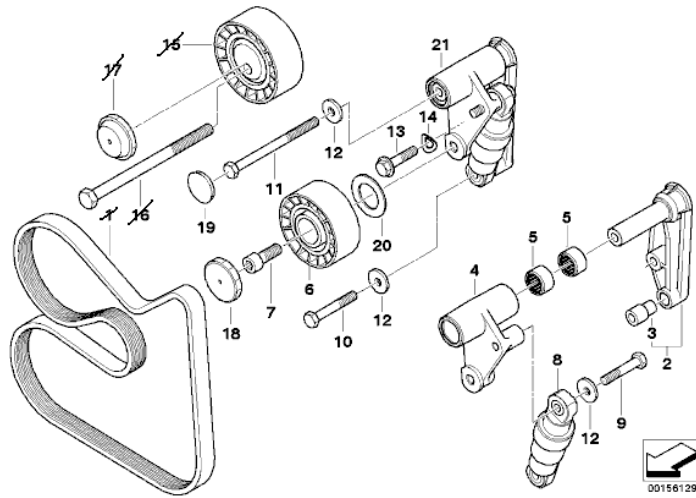

Figure 7
15. Remove the idler pulley (Figure 7, #15,16 & 17).